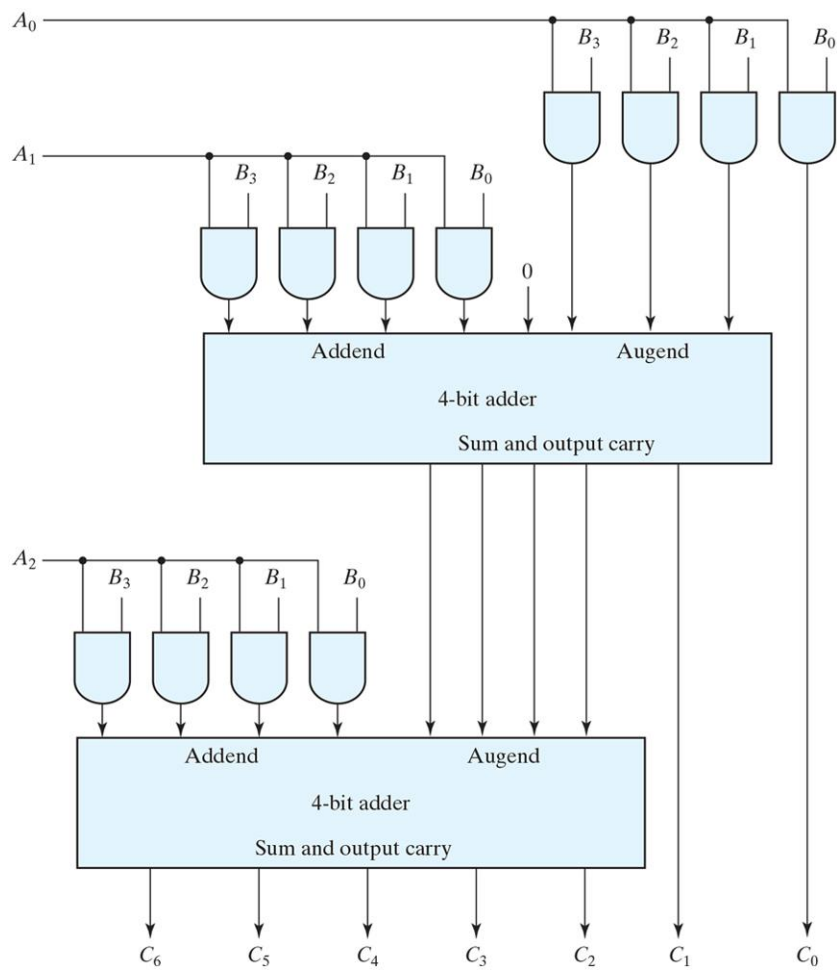

Figure 4.16 Four-bit by three-bit Multiplier
- Should follow figure 4.16 of the Mano textbook